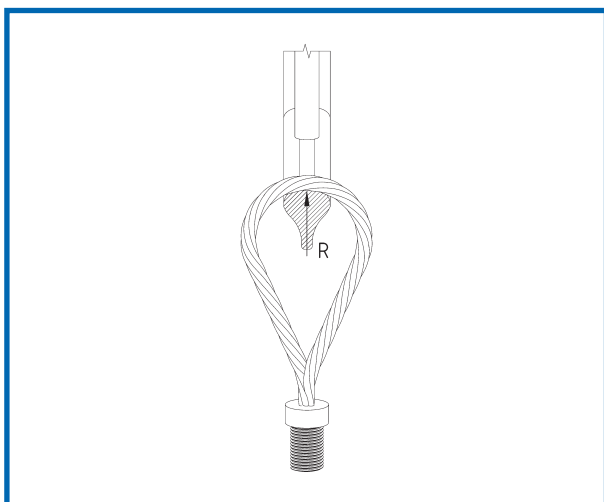

Figure 13: JENKA TLL with a Hook
- Hook size, form, and curvature radius  $R$  of the hook must be checked (minimum of 2 times the cable diameter, see figure 13)